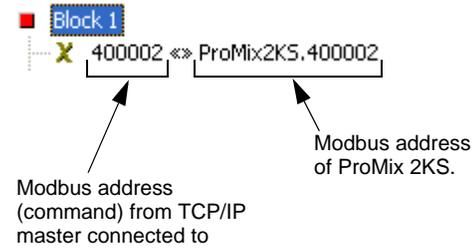

**FIG. 24: Setting Block Size**
3. See FIG. 24. Click the Edit button next to the Block Size field on the right side of the window. The Edit Value window will open. Enter the number of Modbus register addresses in the range from the starting address entered in step 2 to the desired ending address, inclusive. In this example, 7. The addresses must be contiguous. This means that each address must be available and addressable from the ProMix 2KS. If one of the 7 addresses does not exist within the ProMix 2KS Modbus structure, the complete block will not communicate.